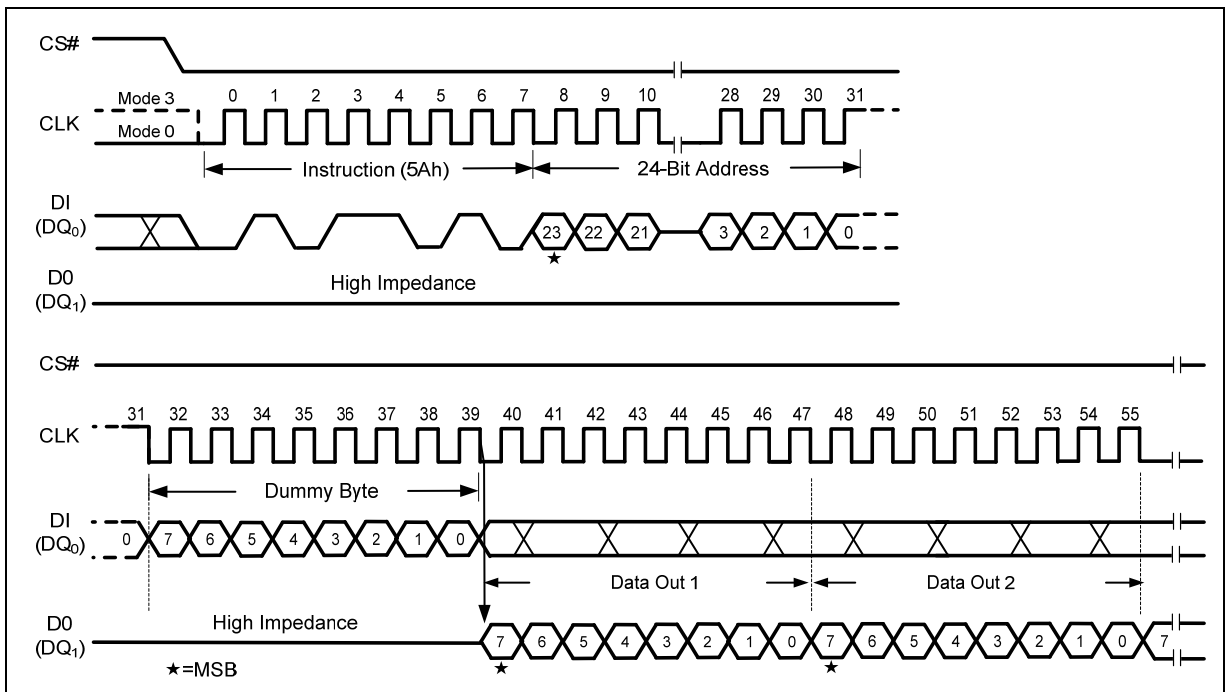

Figure 54 Read SFDP Register Instruction
The Read SFDP instruction is initiated by driving the /CS pin low and shifting the instruction code “5Ah” followed by a 24-bit address (A23-A0)(1) into the DI pin. Eight “dummy” clocks are also required before the SFDP register contents are shifted out on the falling edge of the 40th CLK with most significant bit (MSB) first as shown in Figure 54. For SFDP register values and descriptions, refer to the following SFDP Definition table.